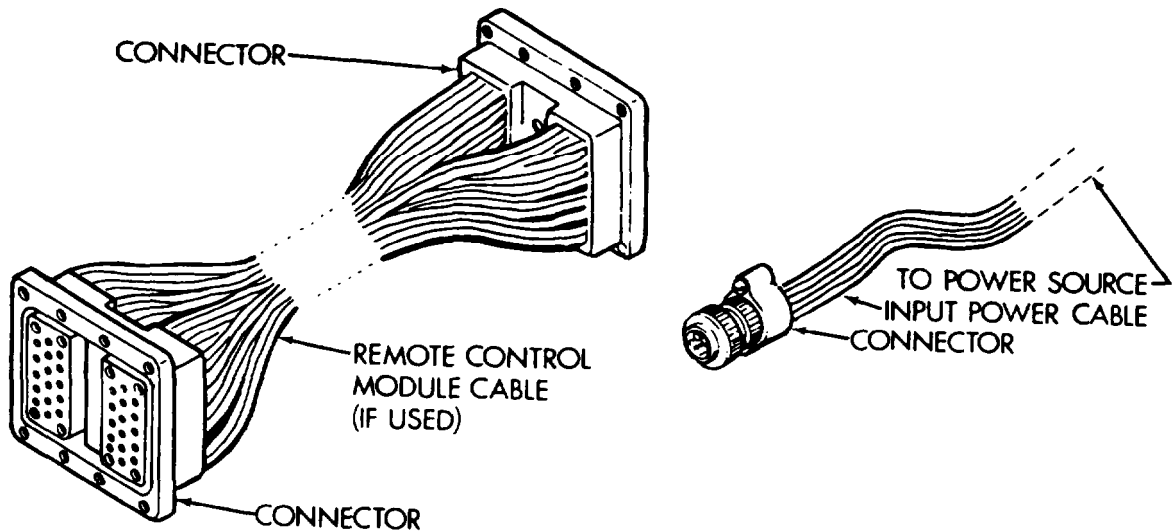

Figure 4-36. Connectors (Installation)
a. There are three connectors supplied with each air conditioner. (See fig. 4-36.)
(1) Input power cable connector (P1). This connector is used at the unit end of the input power cable. It can be connected to the J1 receptacle located above the control module or the J11 receptacle located on the upper left rear corner of the unit.